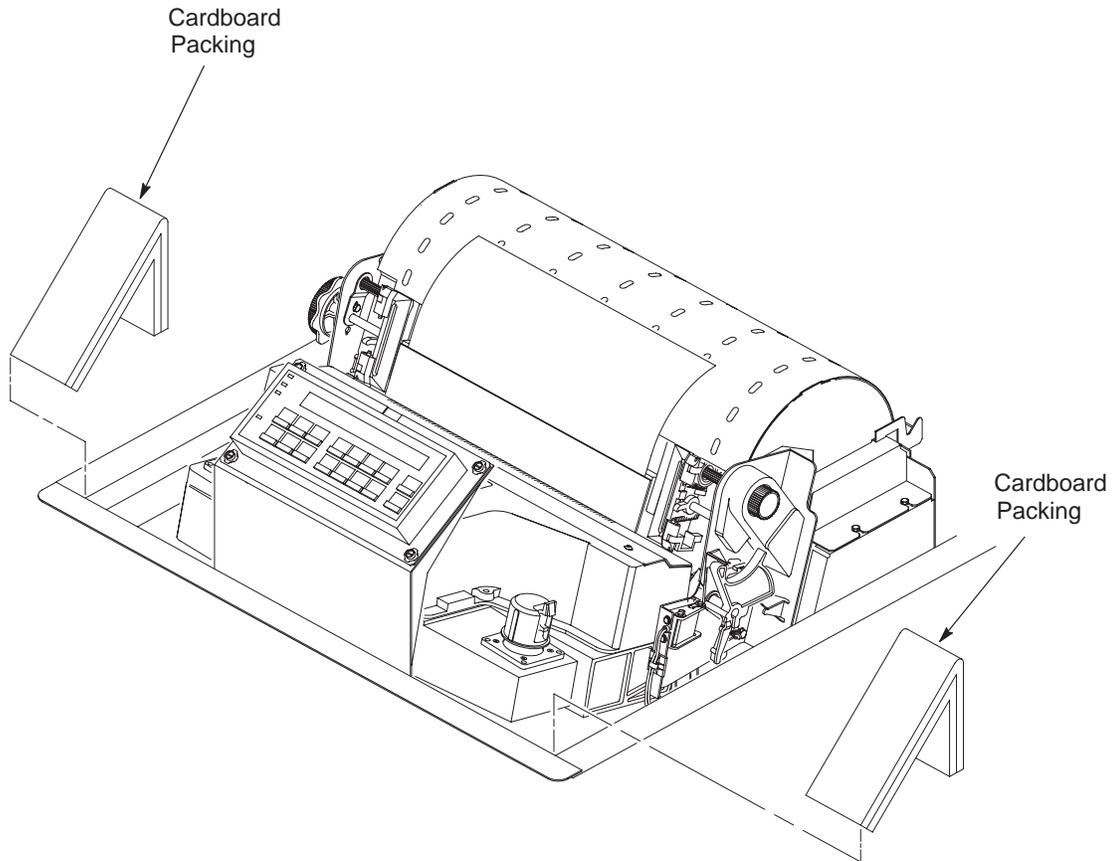

Figure 2-5. Removing the Cardboard Packing
2. Remove the cardboard packing. (See Figure 2-5.)